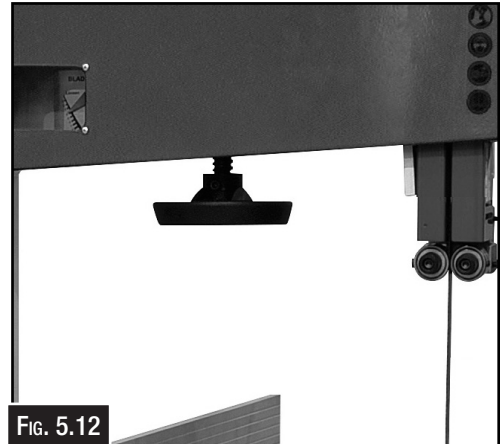
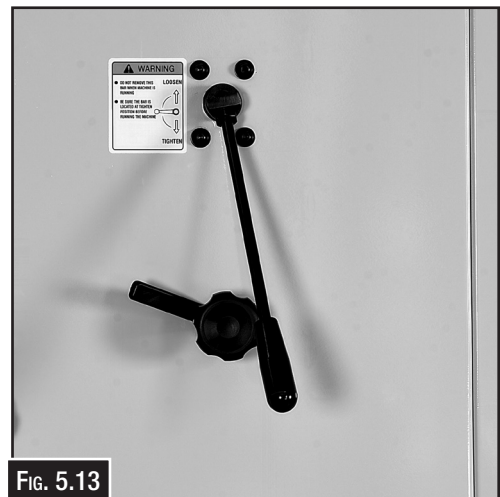

FIG. 5.12
FIG. 5.13
2. Release the blade tension by turning the blade tension hand wheel (Fig. 5.12) or turn the quick release lever to the left.(Fig. 5.13)